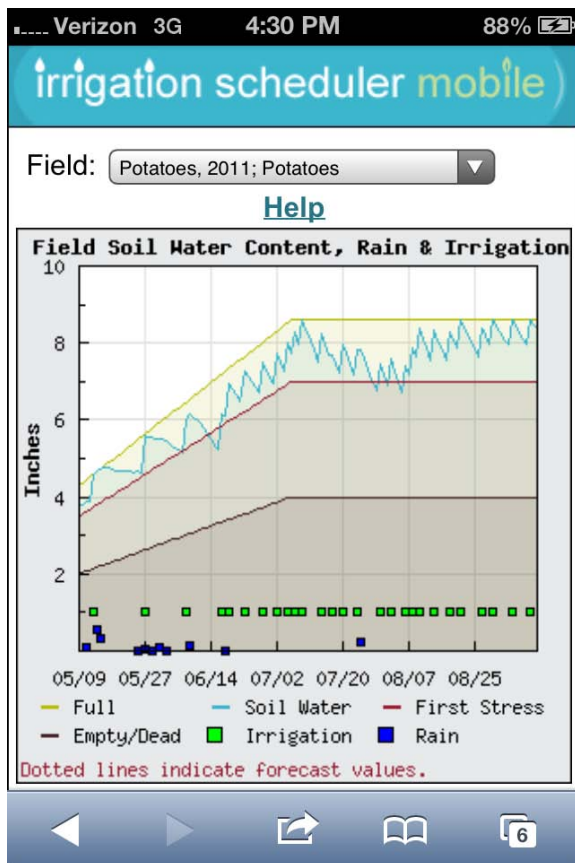

Figure 14. Soil Water Chart
**Line Colors:** When the calculated soil water content is well above the MAD point and the plant growth should be at maximum, then the row is highlighted green (Figure 14). When the soil water content gets close to the MAD line (only 15% of the readily available water remaining) then the row turns yellow.
The soil water chart (Figure 14) shows the estimated soil water content (blue line) over time in relation to the field capacity (light green line), management allowable depletion (MAD; red line), and the wilting point (black line). All of these may change over time as the soil volume available to the plant increases with the growing plant roots (i.e. the upwards slopes in the first part of the season).